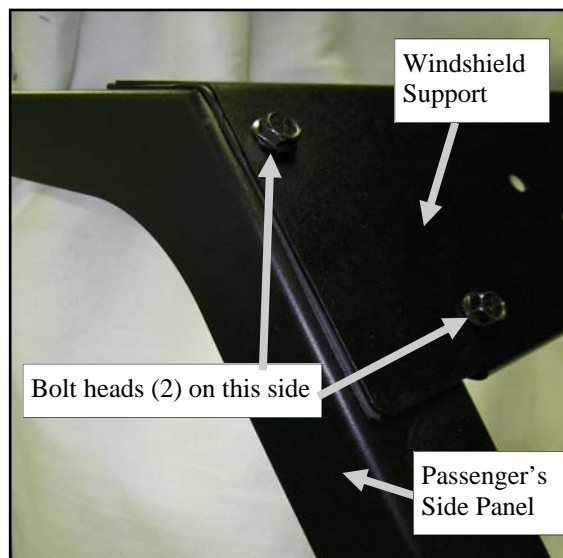

Fig. 7.1 (view of passenger's side)
**7.1** With assistance, orient the windshield support as shown in figure 7.1. Fasten to the side panels using the hardware listed below. **Tighten the screws at this time.**